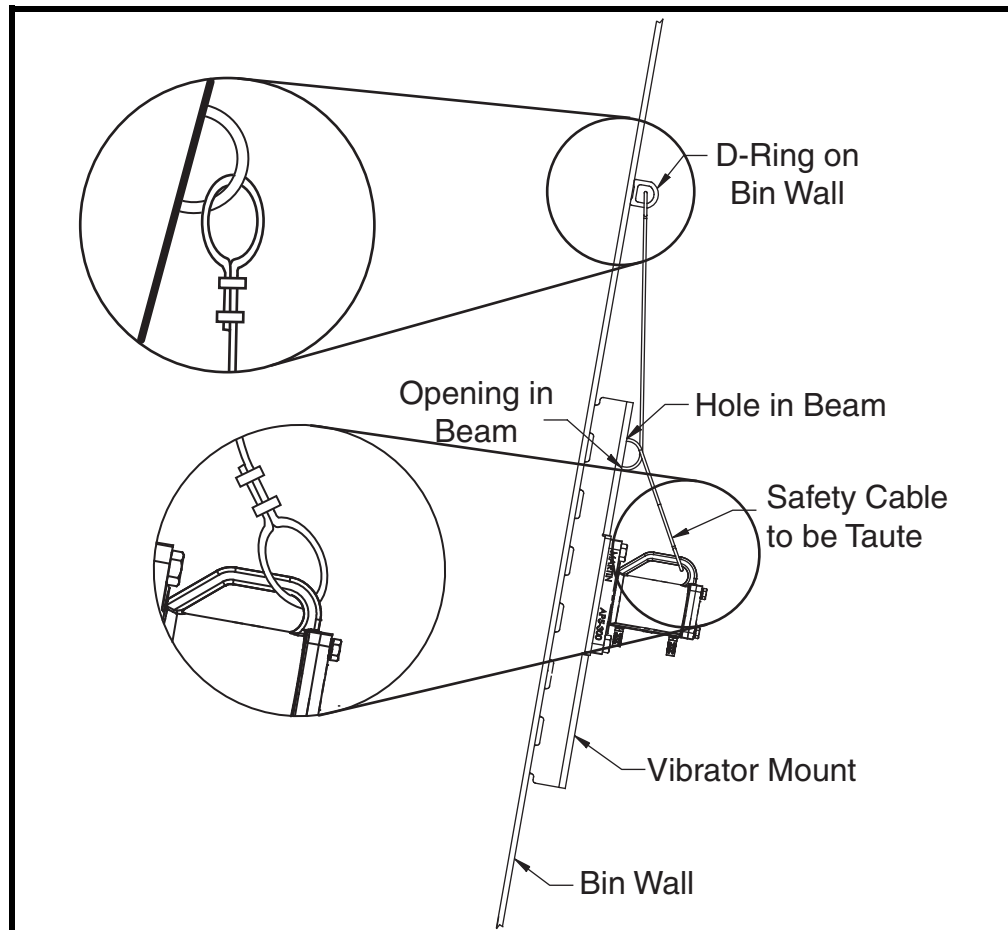

Figure 5. Installing Vibrator Safety Cable
- a. Weld D-ring (A, Figure 5) onto structure wall (B) above vibrator.
- b. Loop 1/4-in. (6 mm) wire cable (C) through hole in vibrator top plate (D) and D-ring on structure wall.